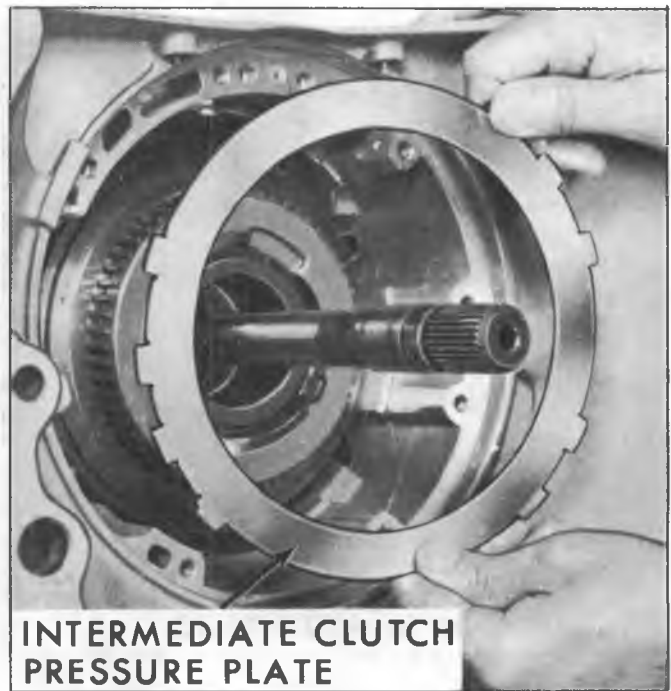

Fig. 31M--Removing Intermediate Clutch Pressure Plate
5. Remove intermediate clutch pressure plate (fig. 31M).